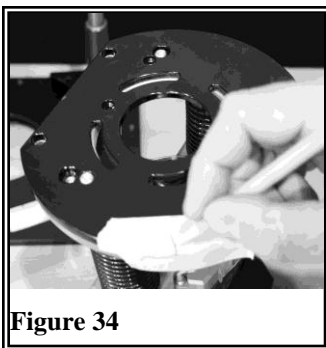

Figure 34
- Turn the router upside down and transfer this mark to the router sub base. (Figure 34)